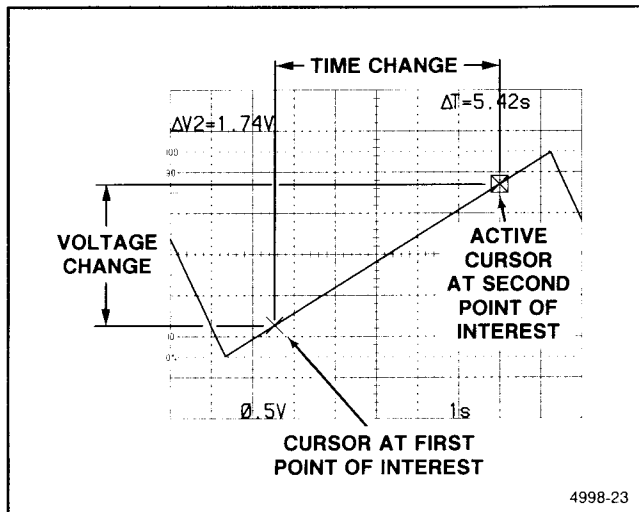

Figure 6-10. Slope using cursor.
4. Set the A SEC/DIV switch to horizontally spread the portion of the waveform to be measured across the width of the graticule area (see Figure 6-10).
As an example, in Figure 6-10, the voltage difference between the measurement points is 1.74 V, and the time difference is 5.42 s.